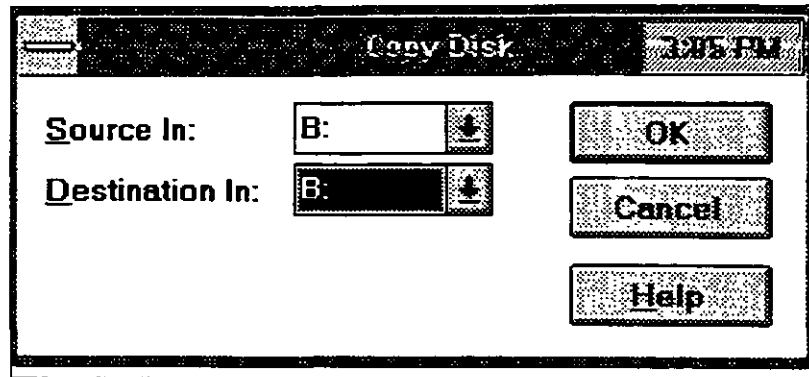

Figure 1-1
4. Answer the prompts in the dialogue box (if you have two floppy drives). Select the letter of the source drive and the destination drive, and then choose the **OK** button. (If your computer has only one floppy disk drive, this dialogue box does not appear.) The screen may look as in Figure 1-1.